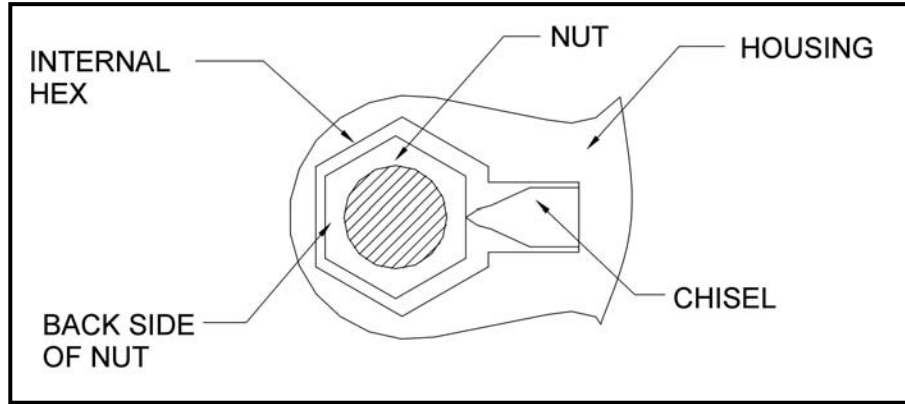

FIG.6
2. Place the internal hex of the housing over the nut. Pull the housing against the back side of the nut, with the nut centered on the back side of the internal hex. The housing of the nut splitter should be flat on the surface of the flange. The cutting chisel should be as close to the bottom of the nut as possible and be centered on a flat of the nut. See **figure 6**.